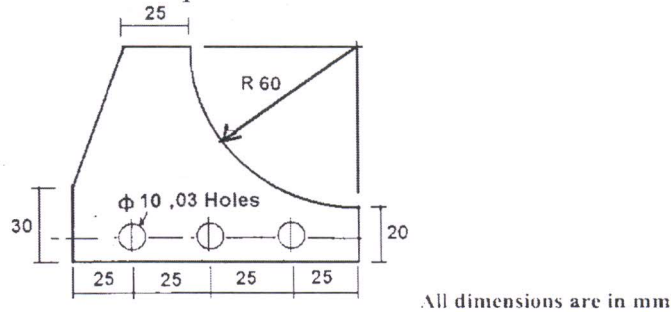

Fig. 4. Q No. 8(b)
- Q8) a)** Write a CNC part program to manufacture the component as shown in Fig. 4, assume suitable data for feed and speed. Use peck drill canned cycle for drilling operations and use right cutter radius compensation. Take thickness of the plate is 20mm. **[12]**